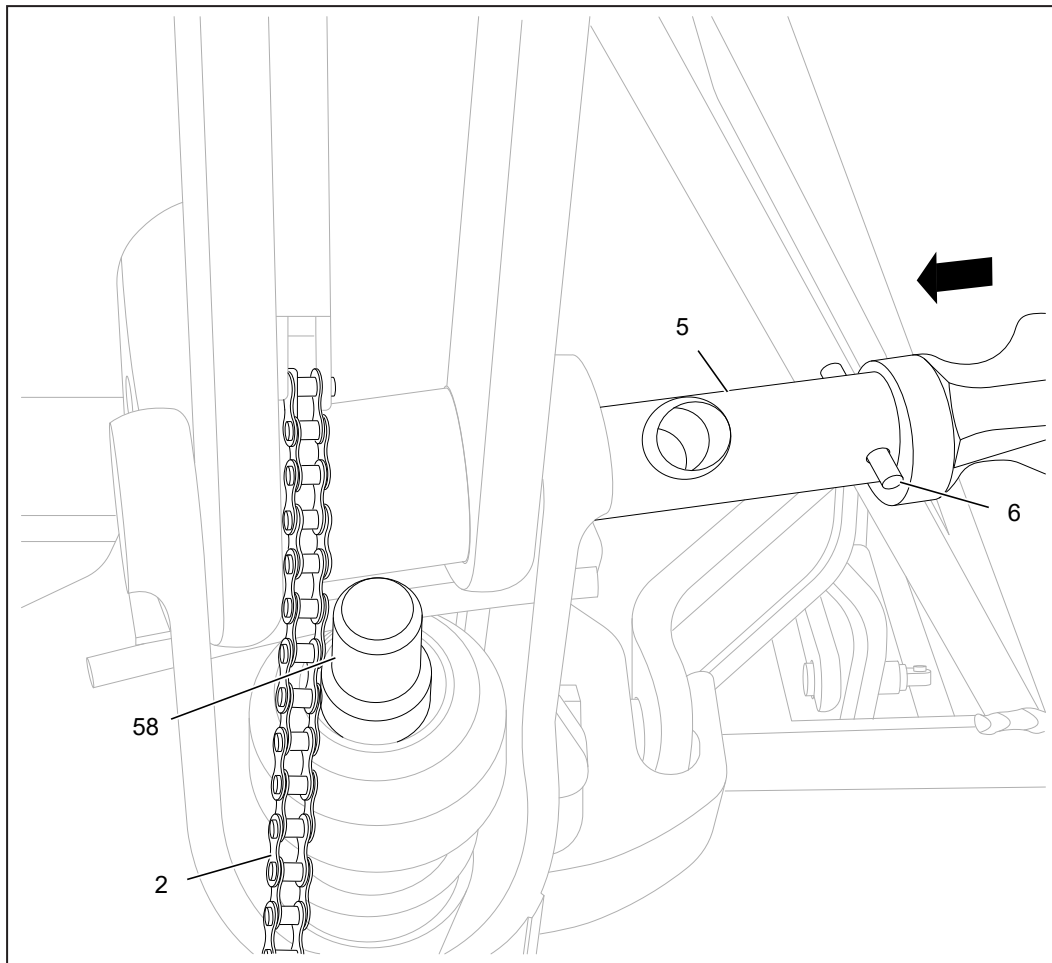

Figure 2 Assembling the Tiller and Pump Unit
1. Insert the tiller into the right piston of the pump (58). Assemble the axle (5) onto the tiller, then tap the axle from right to left with a hammer until the tiller is securely connected to the hydraulic pump. (See Figure 2 on Page 8.)
2. Put the fingertip control (19) in the lower position. Pass the adjusting nut (4), linking rod (3), and chain (2) through the hole in the axle (5).
3. Press the tiller (11) down and remove the pin (60) that retains the spring.
4. Put the fingertip control (19) in the lift position. Raise the lever rod (80) with the pin, then insert the linking rod (3) into the front slot of the lever rod (80).
-  **NOTE:** Ensure that the adjusting nut (4) remains underneath the lever rod.
5. Tap the spring pin (6) into the hole in the axle (5) with a hammer. The tiller is now assembled to the pump.